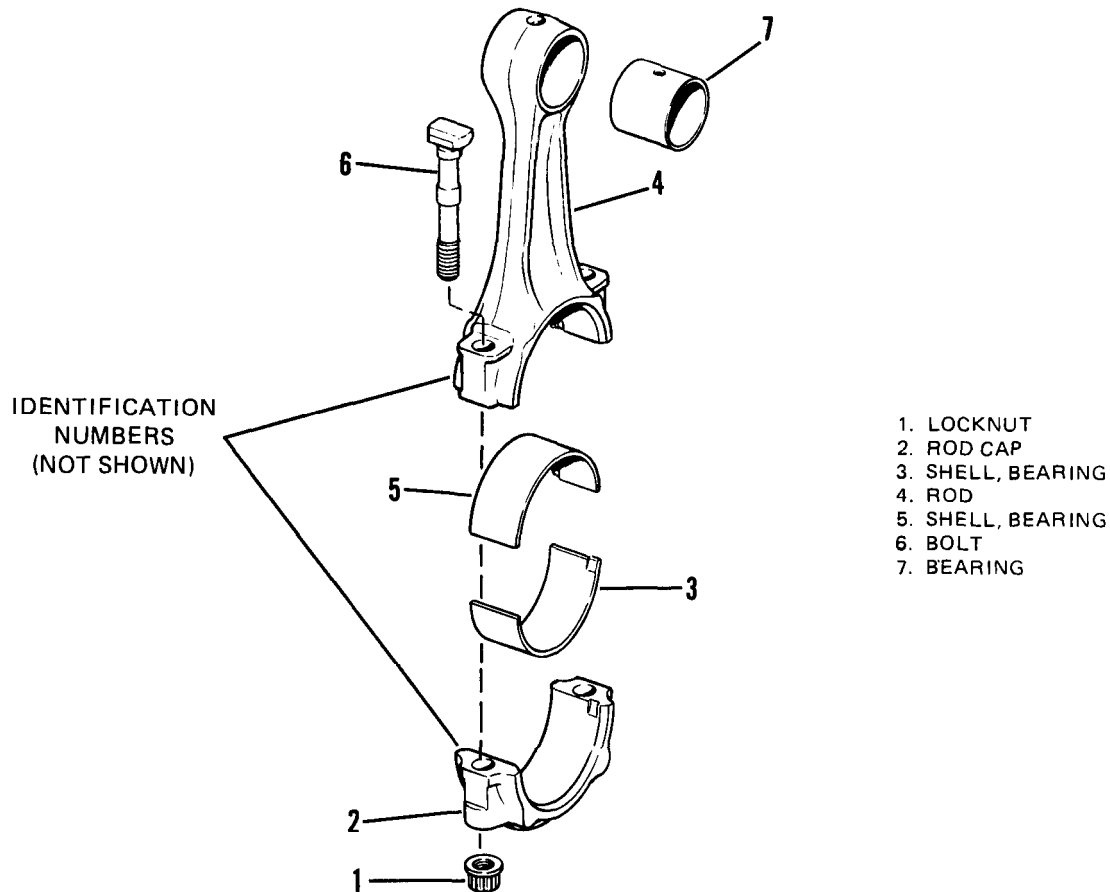

Figure 7-30. Connecting Rod.
- (1) Remove oil pan, refer to paragraph 7-3.
- (2) Remove cylinder and piston, refer to paragraph 7-13.
- (3) Remove nuts (1, Figure 7-30).
- (4) Remove connecting rod cap (2) with bearing shell (3).